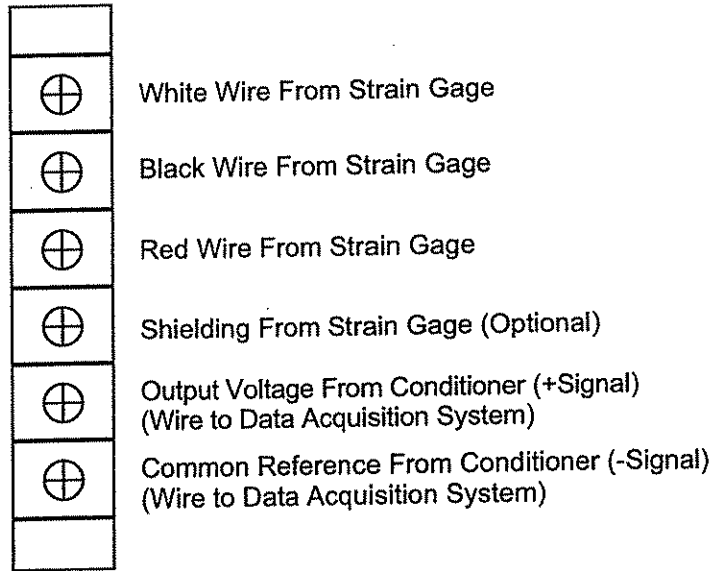
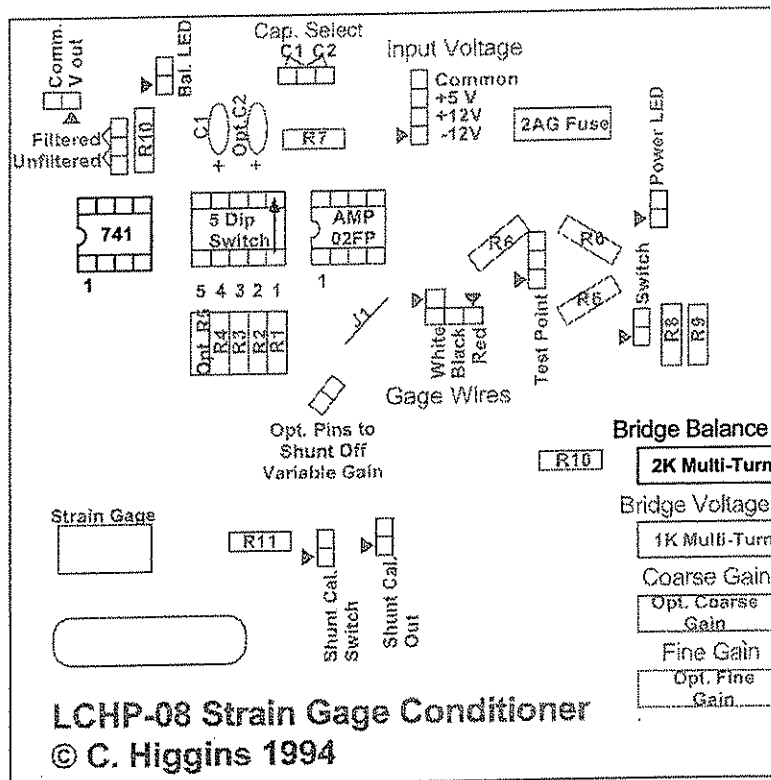
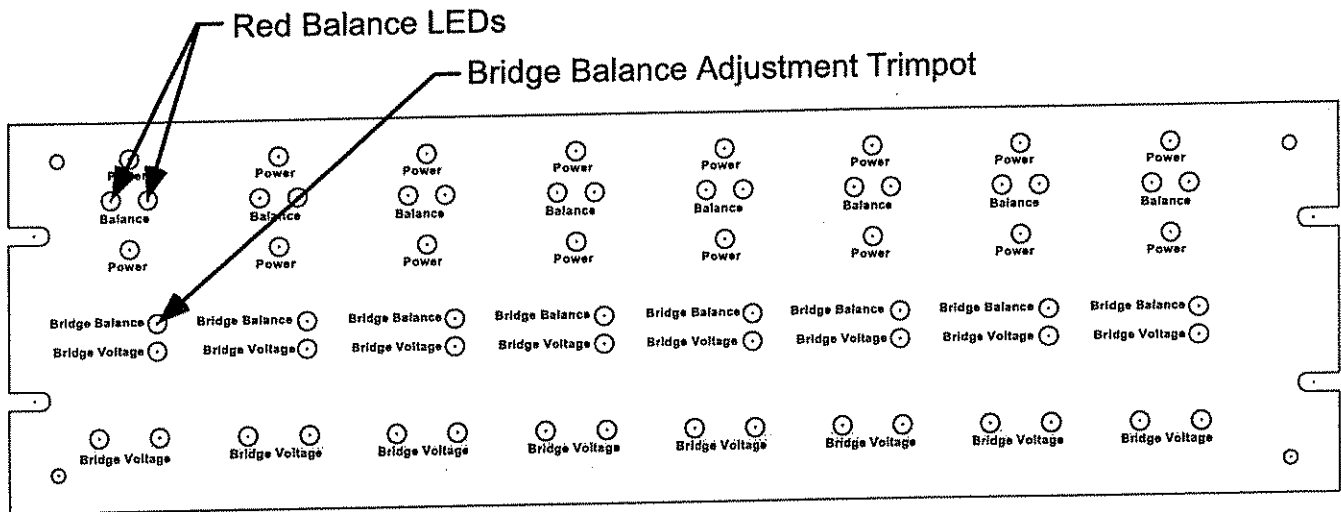

Fig. 6 - Screw terminal for input to and output from SGCs.
Fig. 11 - Location of bridge balance trimpot on SGC card.
Fig. 12 - Location of bridge balance trimpot on face panel.
Input and output wiring to the SGC is provided by screw terminals on the back of the card cage with the wiring configuration illustrated in Fig. 6. The SGC input requires a three wire hook-up for each strain gage (typical strain gage wiring) as illustrated in Fig. 7. Output to a data acquisition system is provided as a high (+ positive) and low (- negative) signal. The low signal for all cards is referenced to the power supply common, and thus the SGC can be used for single-ended data acquisition systems. Racks of SGC cards in cabinet enclosures have screw terminals wired to plugs for rapid connect/disconnect to test set-ups. Connector pin configurations are shown in Fig. 8.
Adjustment of the bridge balance is made by turning the trimpot located on the SGC card as shown in Fig. 11. The trimpot is accessed through the face panel and balancing is facilitated by two red LEDs also located on the face panel as shown in Fig. 12. The red LEDs are driven by a typical 741 operational amplifier (op amp) located on the SGC card as shown in Fig. 11. One LED will switch on while the other will switch off when the bridge is near the balance point. The trimpot should be turned in the opposite direction of the illuminated LED to reach the balance point. It is very difficult to get both LEDs to illuminate (perfect balance) as this is an inherently unstable condition. It is typically adequate to turn the trimpot just enough to have the LEDs change which one is illuminated. If the output must be balanced to absolute zero, a DMM can be used to measure the output from the SGC card as shown in Fig. 6 and the bridge balancing trimpot adjusted until 0.0 V is obtained on the meter.
- 4.2.6) Wire the gage to the SGC as illustrated in Fig. 6.